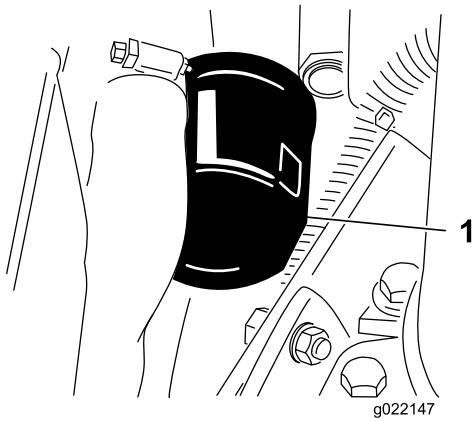

**Figure 56**
1. Remove either drain plug (Figure 56) and let the oil flow into a drain pan. When the oil stops flowing, install the drain plug.